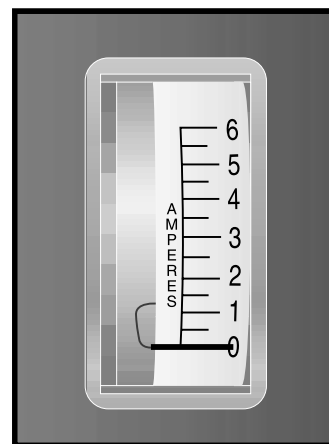

Figure 8. Ammeter (Indicates Full Charge)
You can also check the charge using the ammeter located on the rear of the scooter. The off-board charger power cord must be plugged into a standard wall outlet in order to obtain a reading. When the amperage reading is at or near zero (0) amps, the battery charging is complete. See figure 8.